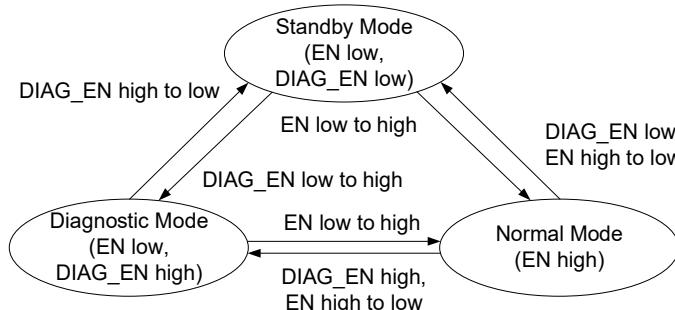

Figure 1: Operation State Machine
6. For more details on standby mode, diagnostic mode, and normal mode, refer to the MPQ5873 datasheet. Figure 1 shows the operation state machine.